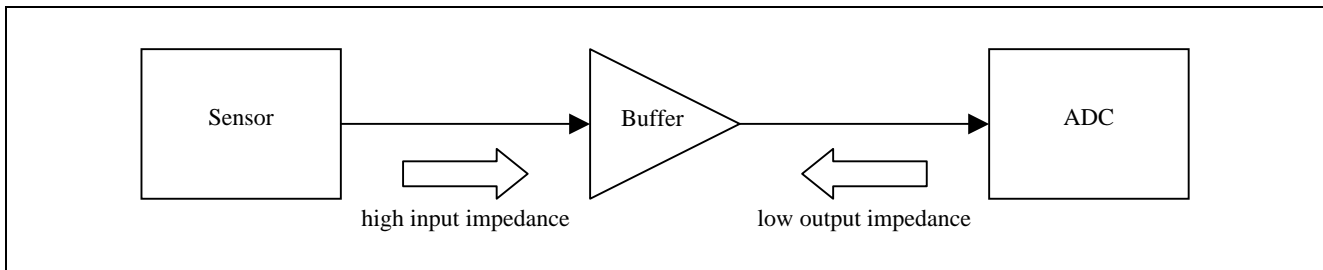

Figure 14 Signal Isolation
- A low-impedance buffer should be inserted when converting a high-speed analog signal as shown in Figure 14. The buffer provides a high-impedance for the sensor and a low-impedance drive for the ADC.